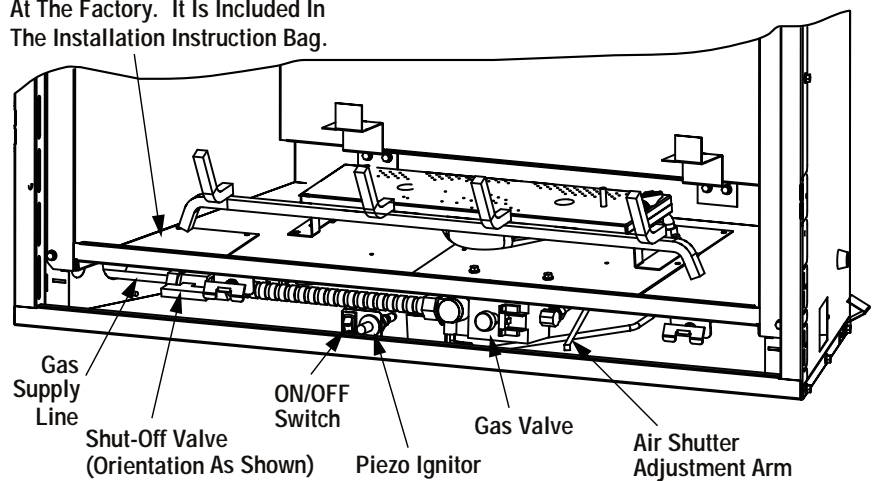

Figure 39
All codes require a shut-off valve mounted in the supply line. The orientation of the shut-off valve should face the front, as shown in *Figure 39*. *Figure 38* illustrates the method for connecting the gas supply.
If required, access the valve by removing the lower control compartment panel (see *Figure 39*) by lifting and pulling the panel forward. The millivolt and electronic control valve has a 3/8" (10 mm) NPT thread inlet port.
Remove the gas line access plate and gasket from the provided plastic bag and install them over the opening, using the provided screws (4) as shown in *Figure 39*.
With gas line installed run initial system check-out before closing up the front of the unit. Follow the pilot lighting instructions provided in the Homeowner's Care and Operation Instructions. For piezo ignitor location see *Figure 39 on page 23* (millivolt appliances only).
Note: Lighting Instructions are also found on the literature tag tied to the gas piping next to the gas valve. To access the tag, open the lower control compartment door (Figure 39 on page 23) by pulling the panel forward.
Observe the flame continuously. If it appears weak or sooty as previously described, adjust the air shutter by rotating the adjustment arm up or down (*refer to Figure 39*) until the flame appearance is as desired.